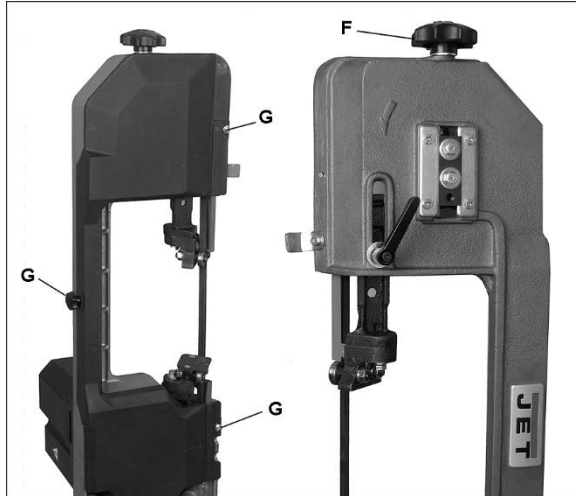

Figure 7-2
2. Open blade cover by removing knob and 2 screws (G, Figure 7-2). Observe position of blade on wheel. If blade is not adjacent to wheel flange, first adjust blade tracking according to sect. 7.6, *Blade tracking*, then proceed to step 3.
3. Turn blade tension handle (F, Figure 7-2) clockwise to tighten blade. Pluck the blade with your finger; a tensioned blade will emit a "twang" sound.
4. Release tension on blade by turning tensioning knob (F, Figure 7-2). Slide blade off wheels.